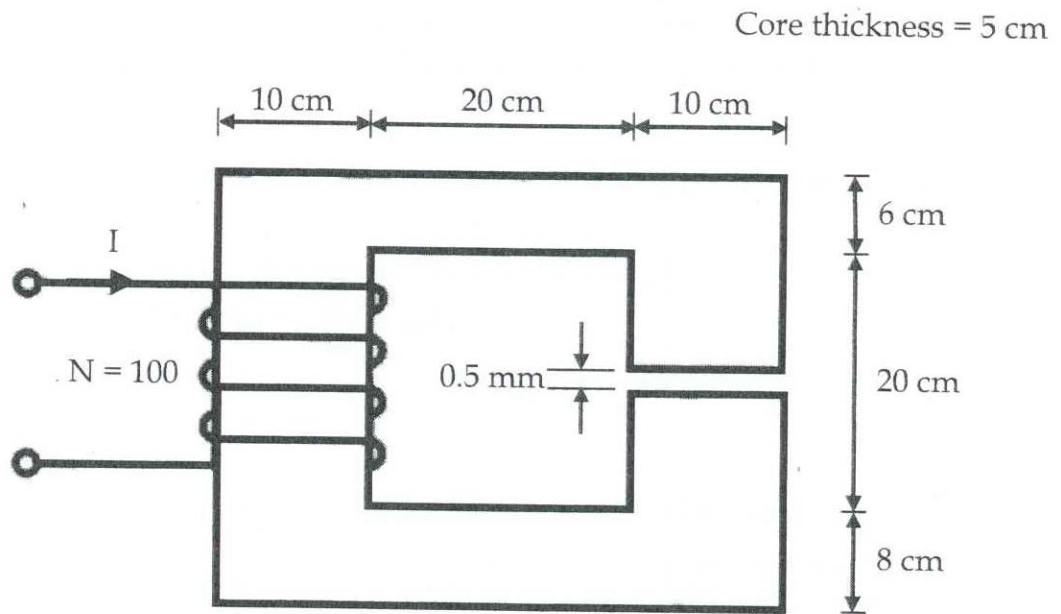

Figure Q1
- b) The iron magnetic core shown in Figure Q1 has a thickness of 5 cm. Its left-side leg has a winding with 100 turns and right-side leg has an air gap of 0.5 mm. Take the relative permeability of iron as 4200 and the permeability of free space as $4\pi \times 10^{-7}$ Wb/A-t.m. Assume that fringing effect in the air gap increase the effective cross-sectional area of the air gap by 4 %.
- ii) Determine the flux densities in each section of the core for a current (I) of 5 A.